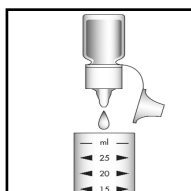

Figure 1
1. Add 10 drops of A-0601 Neutralizer Solution to the empty sample cup (fig. 1).